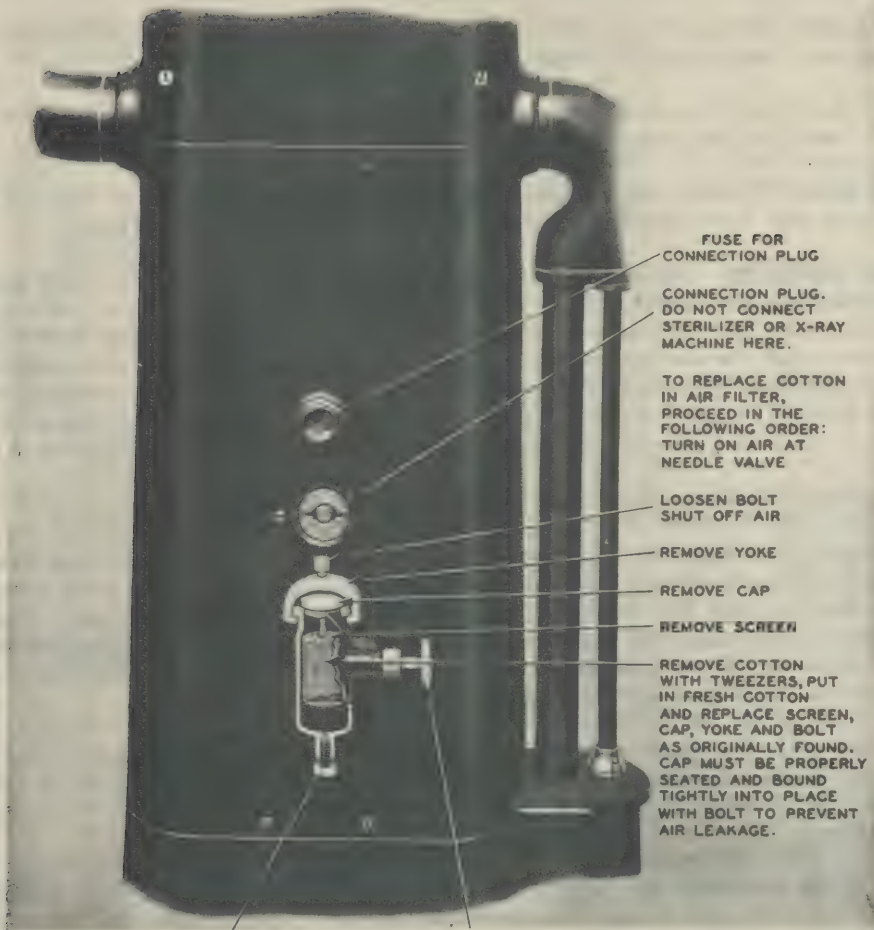

FIGURE NO. 2
1. The cotton in the air filter should be changed at least twice a month. See Figure No. 2.